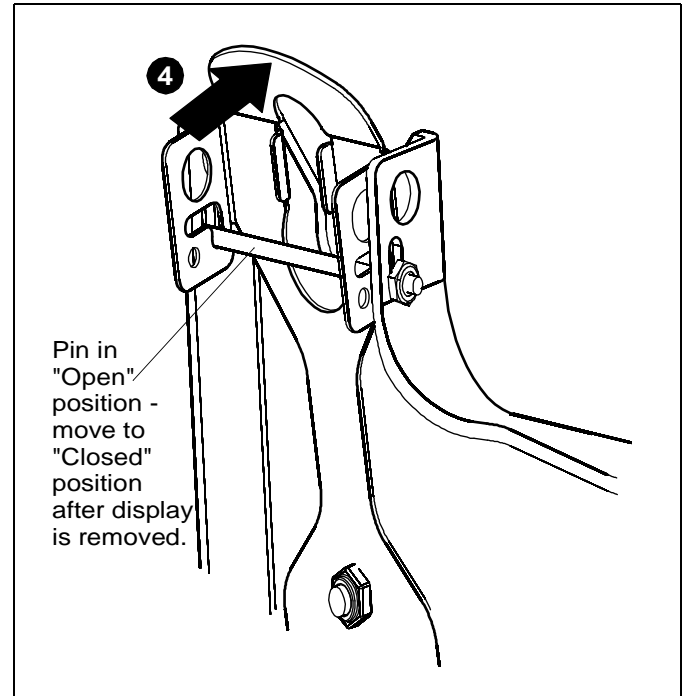

Figure 19
4. Lift up on pin and place flag back against faceplate to return it to "Closed" position. (See Figure 19)